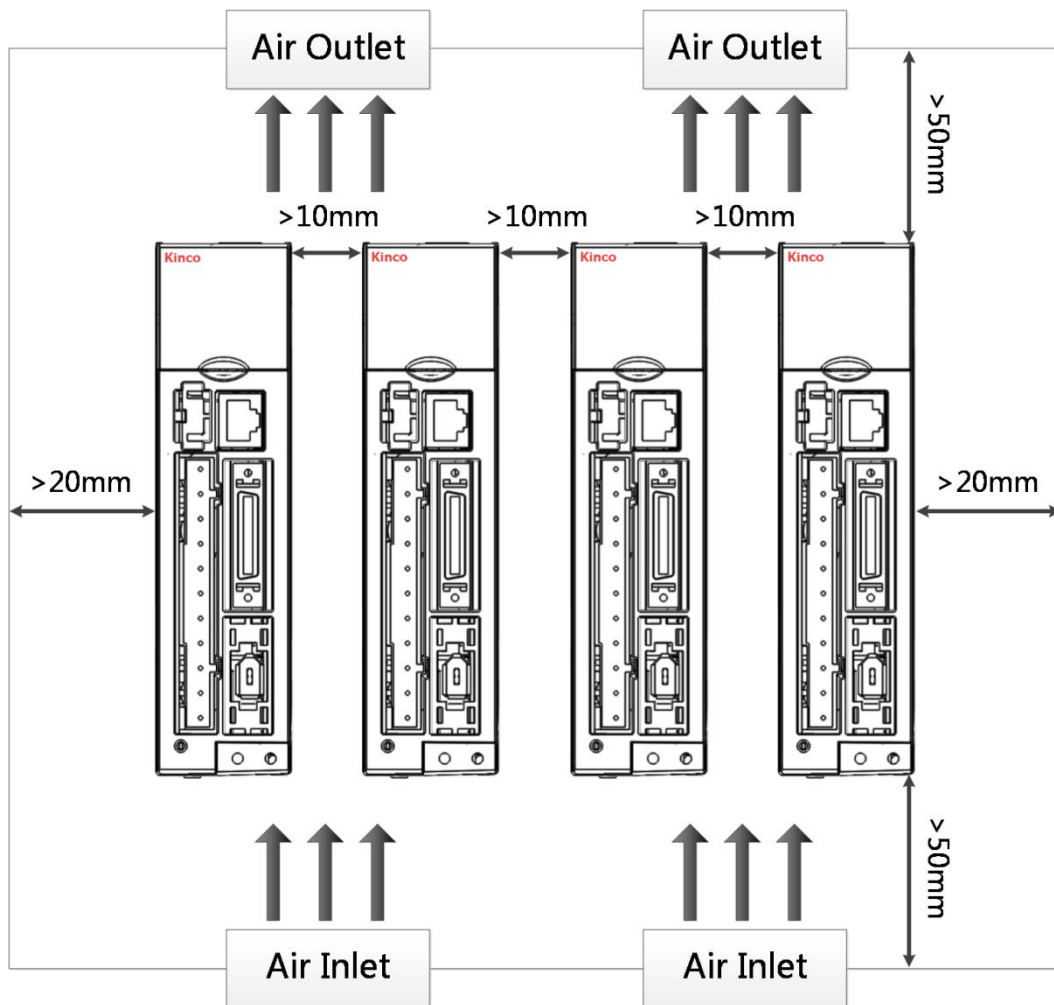

Figure 1-1 Installation Direction and Distance Requirements
- Please strictly install the servo driver according to the installation method shown in Figure 1-1.